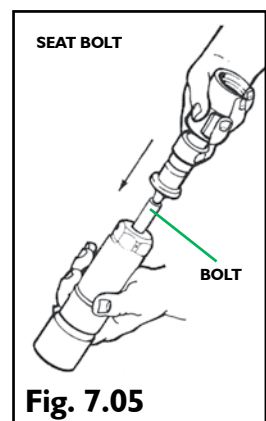

Fig. 7.05
- 2.1 Push bolt back into barrel using the domed end of the pull (see Fig 7.05).